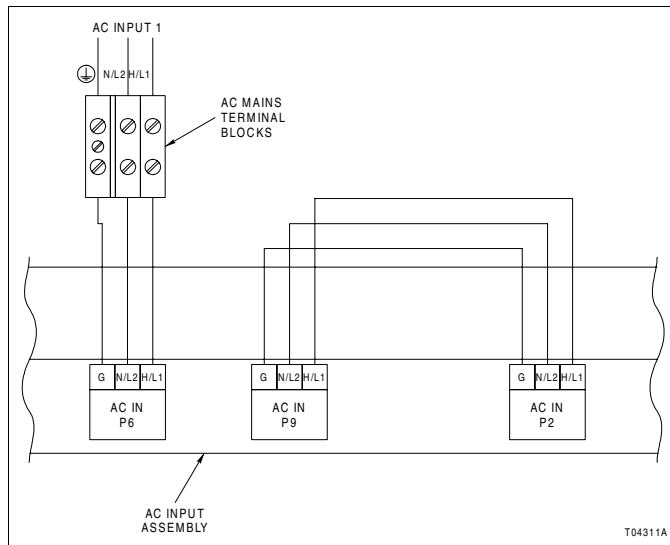

Figure PR7-1. Single AC Input Source Wiring
2. Connect AC input one to the AC mains terminal blocks as shown in Figure PR7-1. Terminate the wires using No. 8 terminal lugs.
- 3. Connect the AC input wires from the terminal blocks to connector P6 of the AC input assembly as shown in Figure PR7-1. The assembly terminals accept stripped wires up to 3.3 square-millimeter (12 AWG).
- 4. Jumper the AC input from connector P9 to connector P2 using the same rated wires as were used for the AC input source wiring (Fig. PR7-1).